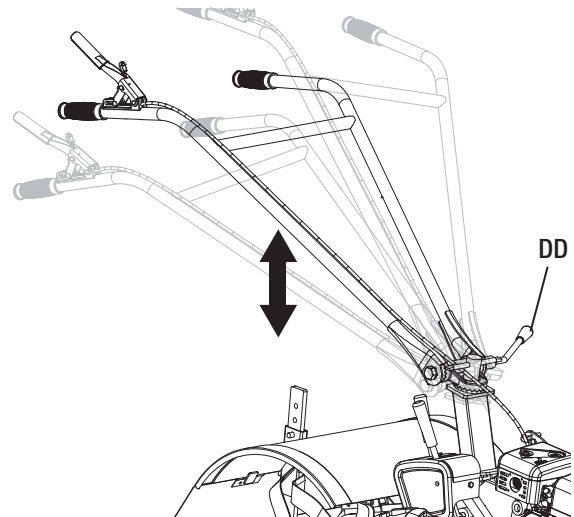

Figure 1-14
- To adjust the handle height just loosen the up/down lever lock (DD) and push handle up or down to the required height. Then tighten the up/down lever lock (DD). See Figure 1-14.